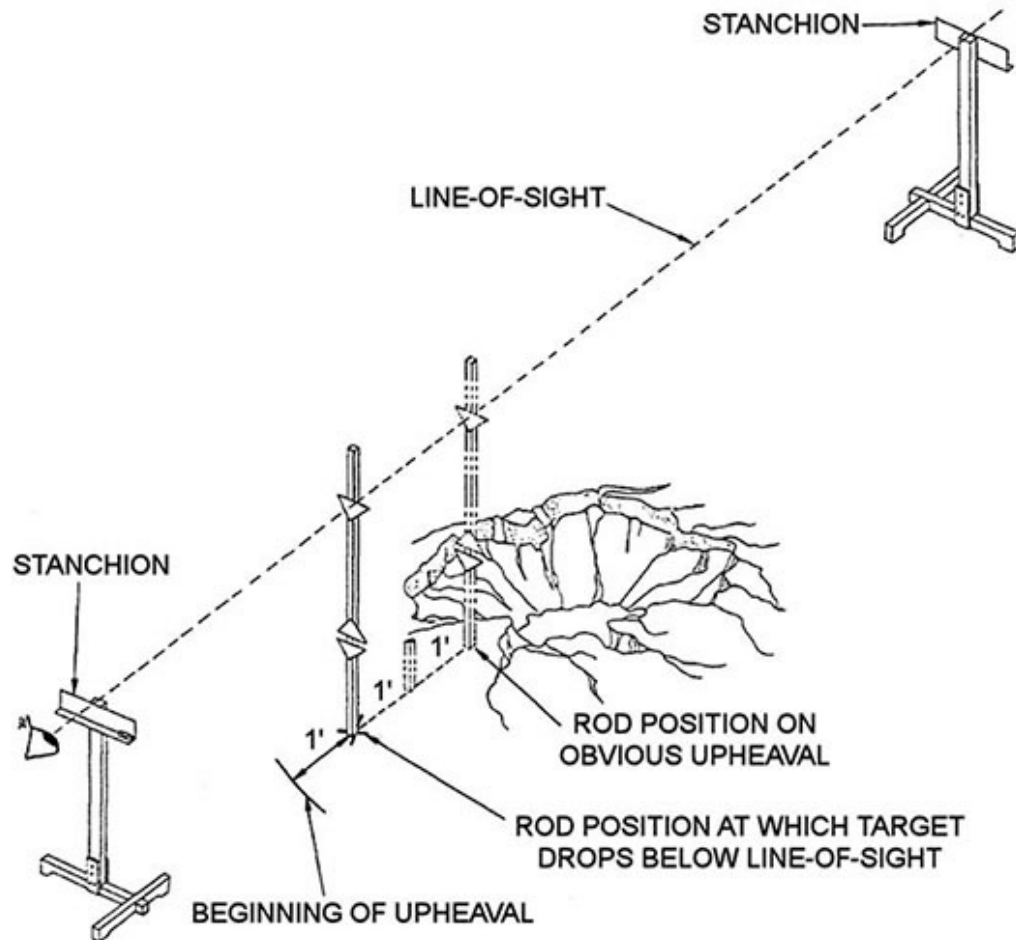

Figure 1-8. Performing crater profile measurements.
- Rather than moving the sight rod every 2 feet along the line-of-sight between the stanchions, move the sight rod 1 foot between measurements (fig. 1-8). Doing so will keep the repair as small as possible to prevent premature depletion of repair material.